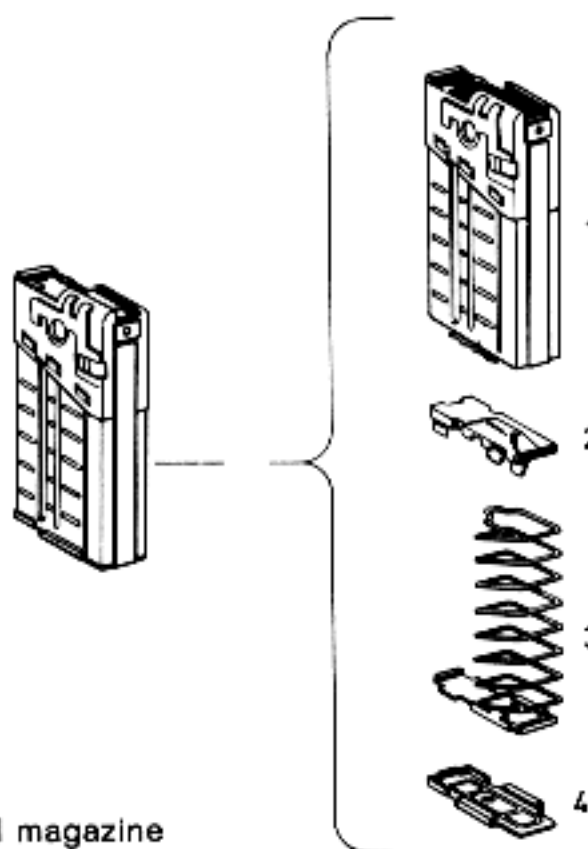
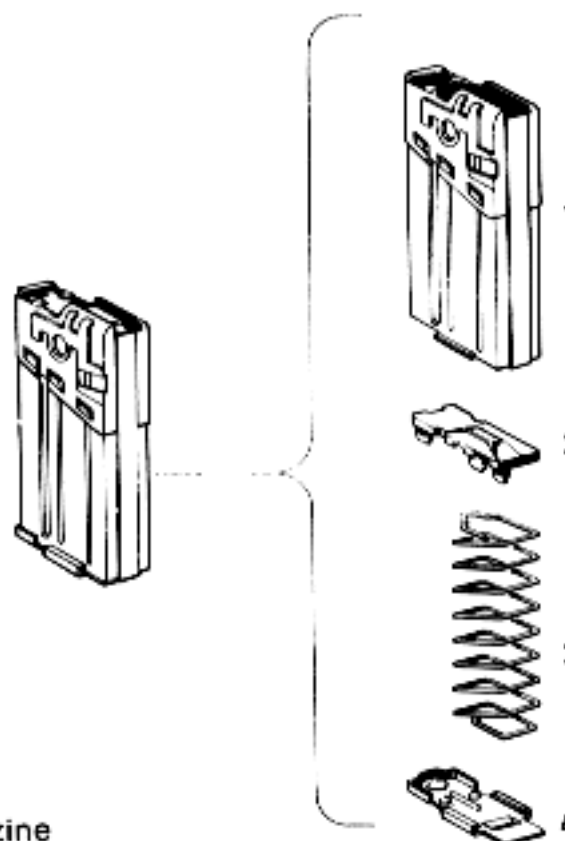

Fig. 26: Light metal magazine
Fig. 27: Steel magazine
1.5.1.6. Magazine (Fig. 26 and 27)
Besides the above described light metal magazine (Fig. 26) a steel magazine (Fig. 27) is available.